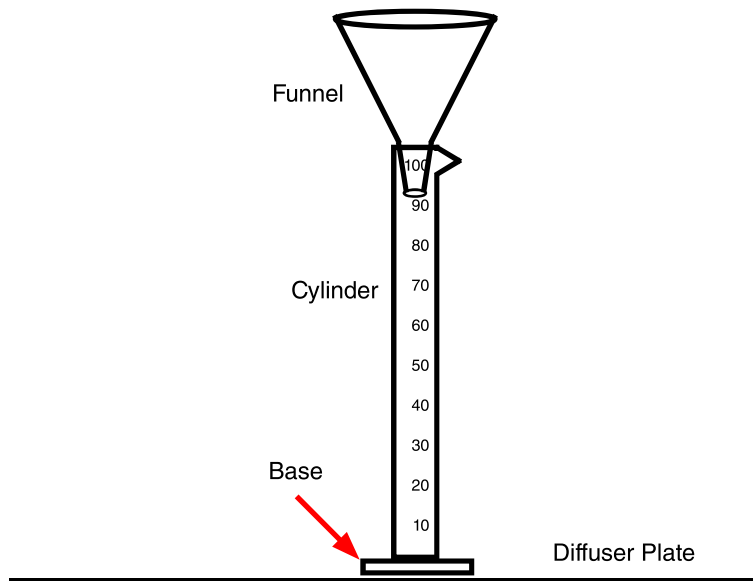
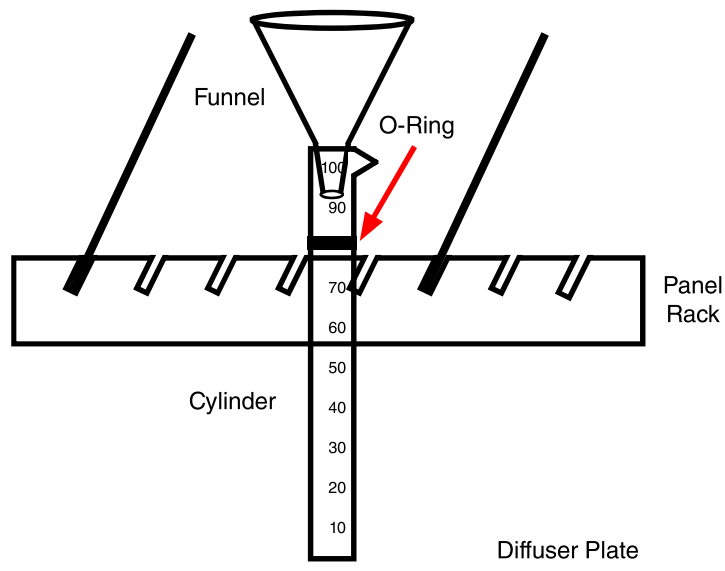

Figure 12.2b: Graduated cylinder with base attached placed on diffuser plate.
Figure 12.2c: Graduated cylinder with base removed resting in panel rack (held in place with O-ring positioned on 80 ml mark).
- Place the vessels on top of the diffuser plate (with racks removed) or through the holes in panel racks. (See Figure 12.2b or Figure 12.2c).